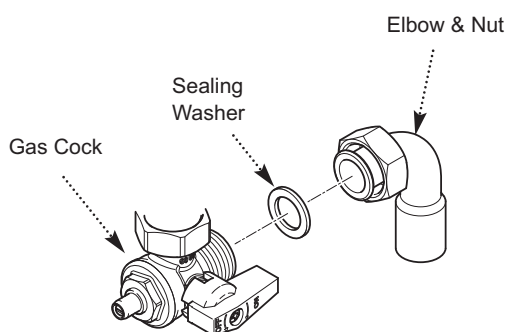

Fig. 23a
5.4.6 Connecting the Gas Supply (Fig. 23a)